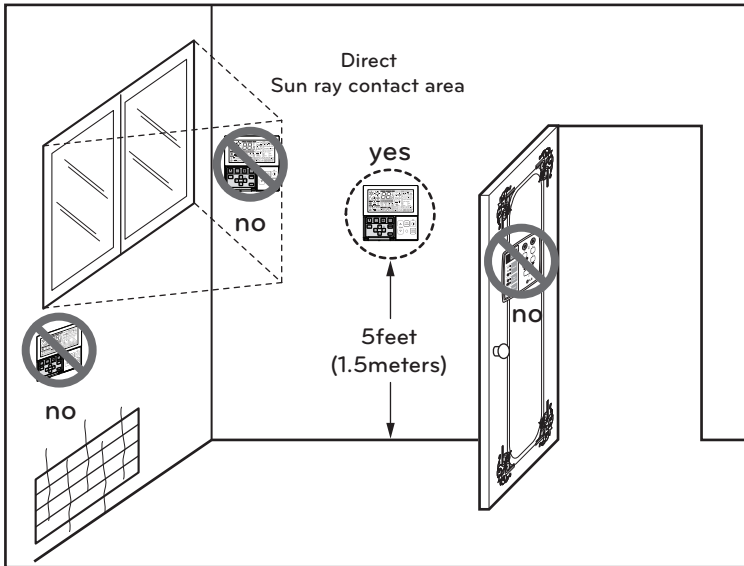

Figure 5 Typical locations for remote controller
- This remote controller is equipped with a seven segment LED display. For proper display of the remote controller LED's, the remote controller should be installed properly as shown in Fig.5. (The standard height is 1.2~1.5 m from floor level.)